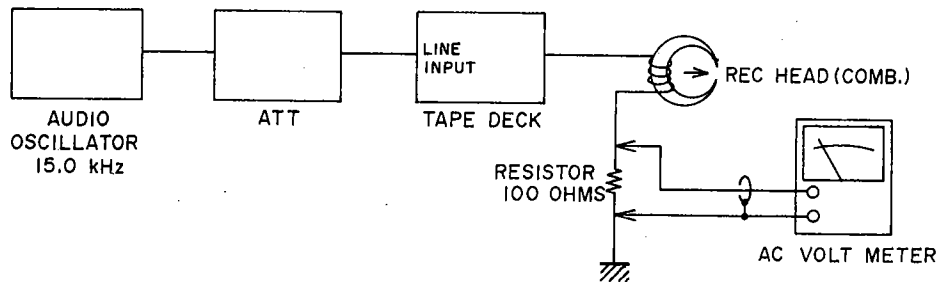

Fig. 15 Instruments Connections
4. If a flat characteristic cannot be obtained from 1,000 Hz to 10,000 Hz at LN, LH, or Fe-Cr positions, fine adjust at VR6 (LN), VR7 (LH), VR8 (Fe-Cr) respectively.
10. Stop recording Bias Oscillator while making Rec Peaking Adjustment. (Refer to Figs. 15, 16)